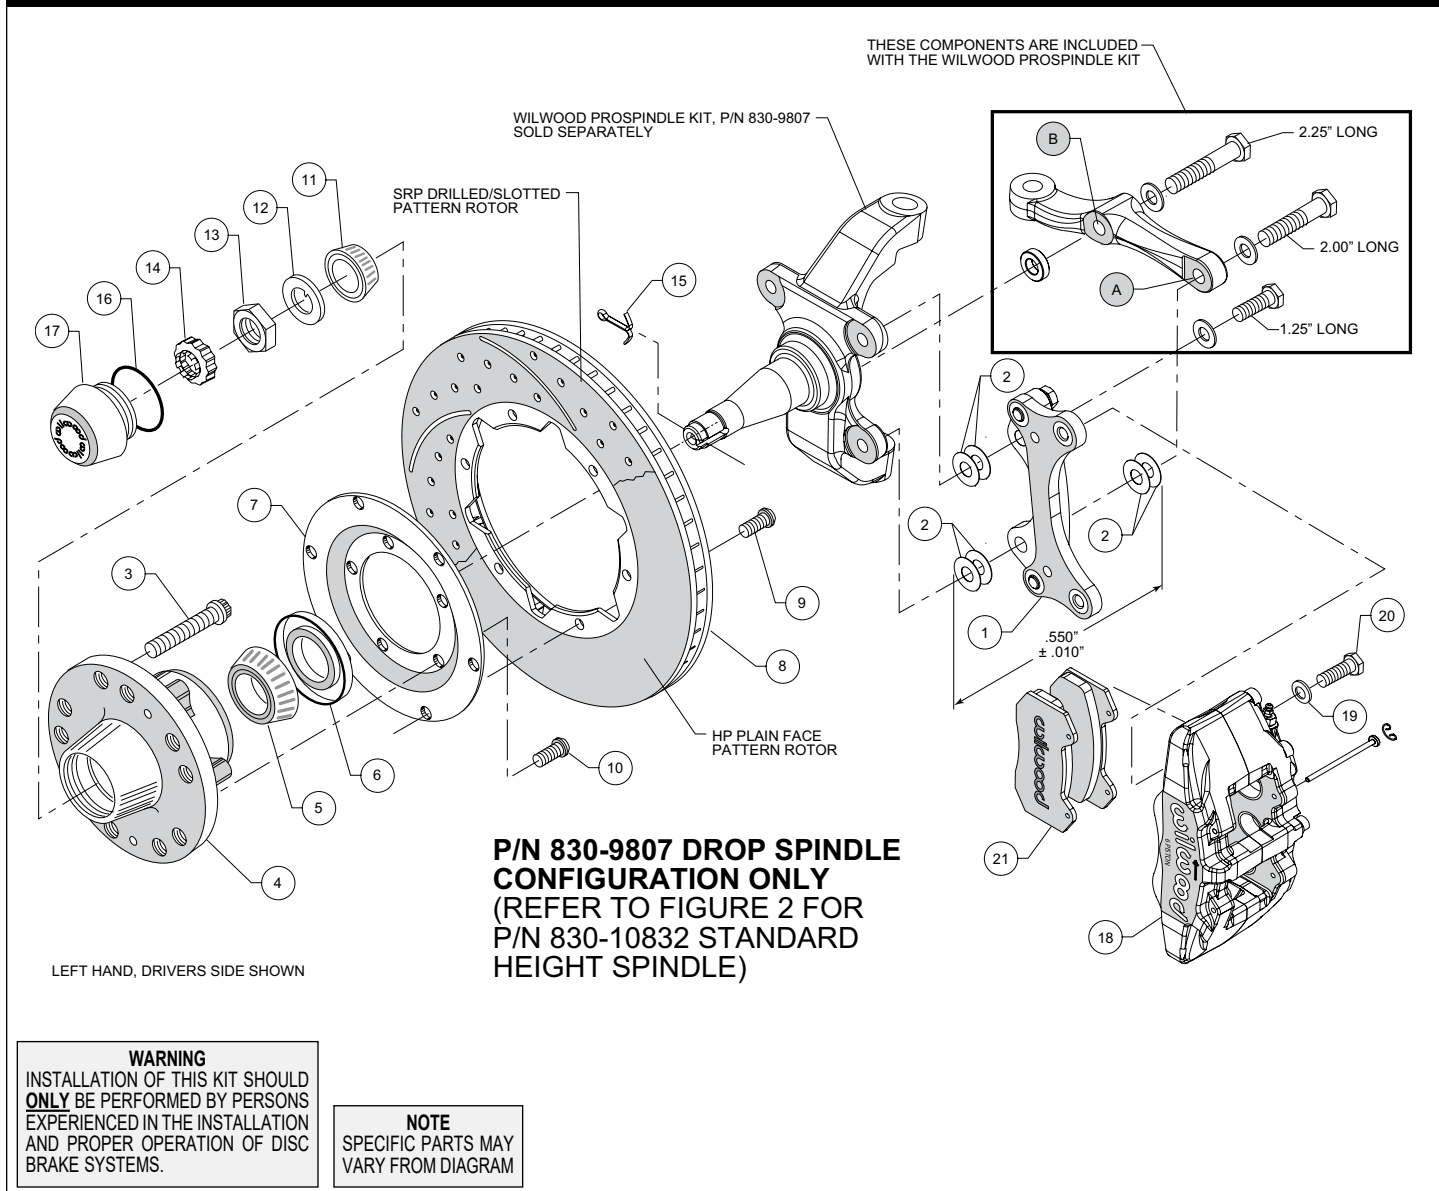
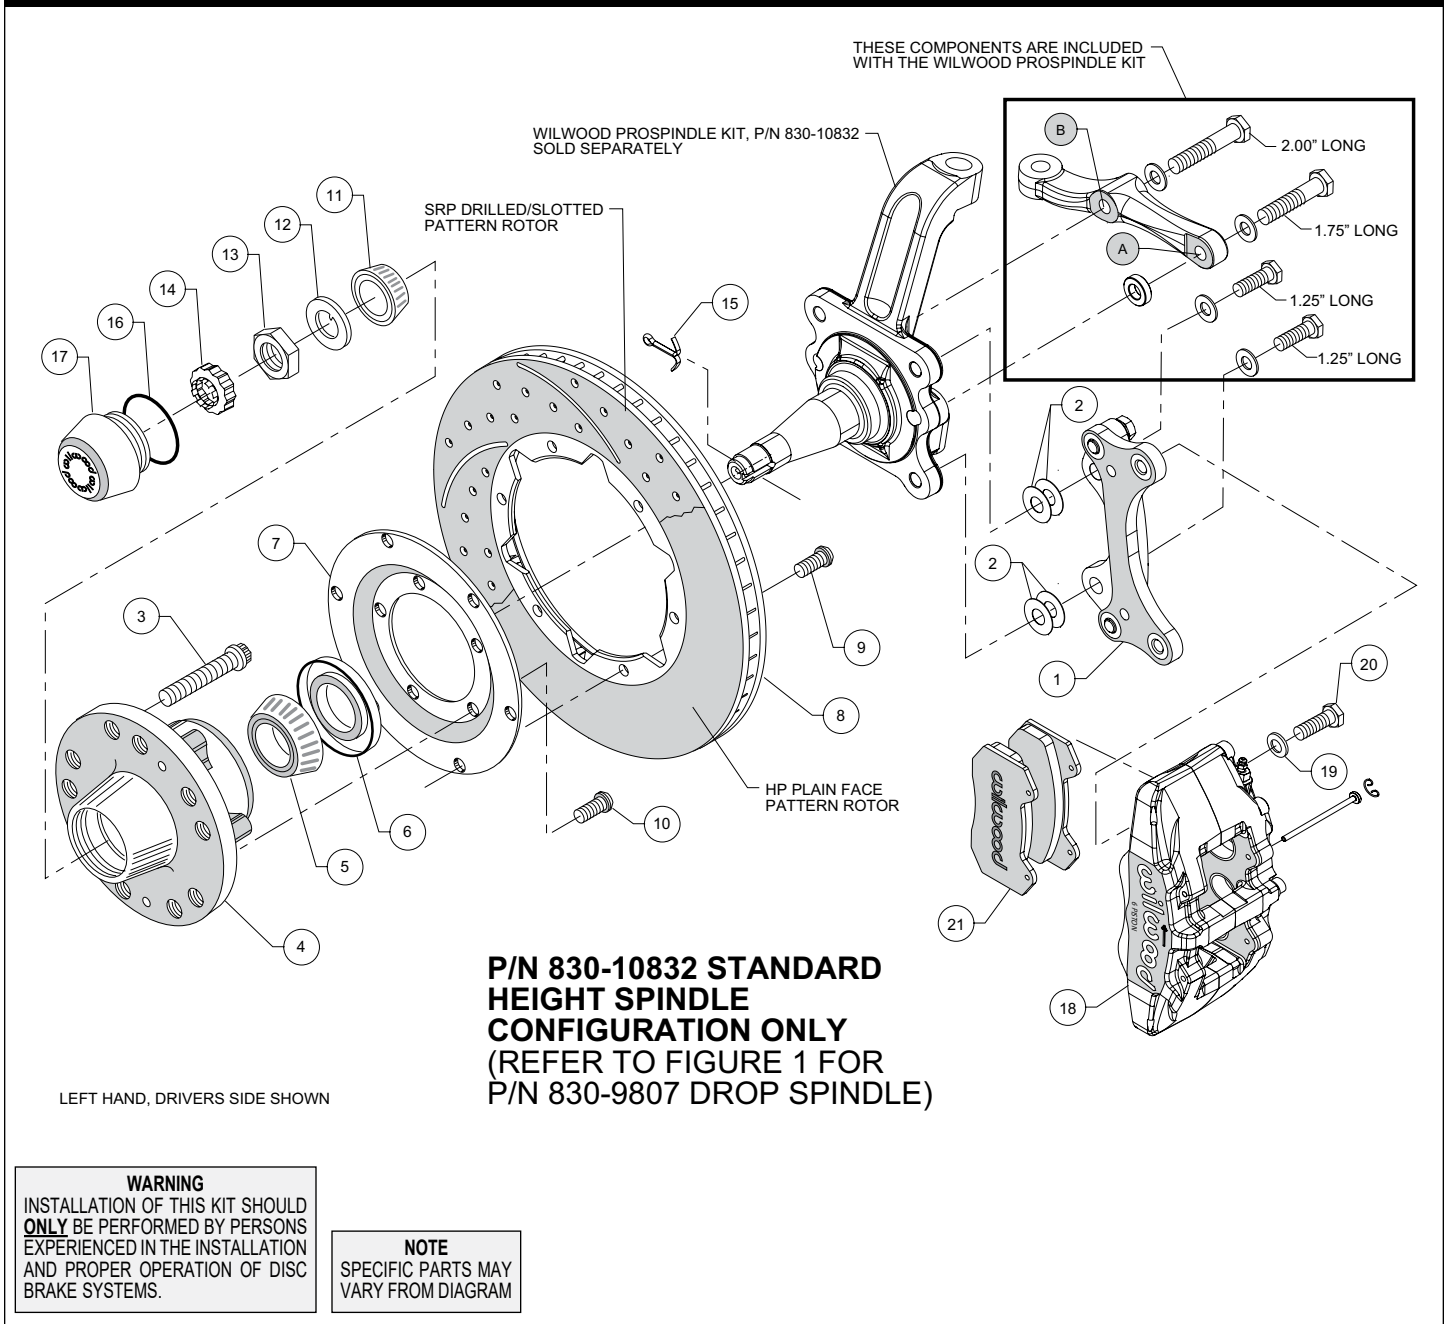

Figure 1. Installation Configuration For Drop Spindle, P/N 830-9807
Figure 2. Installation Configuration For Standard Height Spindle, P/N 830-10832
NOTE: Numbers in parenthesis refer to the parts list and Figures 1 and 2 on the preceding pages.
NOTE: Each Wilwood ProSpindle kit includes bolts, washers, and a spacer to mount the steering arm and caliper bracket. The various bolts are identified by length in the following instructions and in Figures 1 and 2.
- Orient the bracket as shown in Figure 1 and Photo 1. Install at top spindle hole using 1.25" long bolt and .06" thick washer (from ProSpindle kit), and two .016" thick shims (2) between the bracket and spindle, Figure 1.
- Orient the steering arm, and identify the hole marked 'A', as shown in Figure 1. Install at bottom spindle hole using 2.00" long bolt, .06" thick washer (from ProSpindle kit), two .016" thick shims (2) between the steering arm and the bracket, and another two more .016" thick shims (2) between the bracket and spindle, Figure 1. The bracket is located between the steering arm and spindle. **NOTE:** The bracket and shim washers must add up to a total thickness of .550" ± .010", Figure 1.
- Finish attaching the steering arm through the hole marked 'B', as shown in Figure 1. Install using 2.25" long bolt, .06" thick washer, and .25" thick spacer (all from ProSpindle kit), Figure 1.
- Orient the bracket as shown in Figure 2 and Photo 2. Install using 1.25" long bolts and .06" thick washers (from ProSpindle kit), and two .016" thick shims (2) on each bolt between the bracket and spindle, Figure 2. Temporarily tighten mounting bolts. **NOTE:** *The bracket must fit squarely against the mounting points on the spindle.* Inspect for interference from casting irregularities, machining ridges, burrs, etc. Later, after the caliper alignment has been checked, the mount bolts will be secured using red *Loctite*® 271.
- Orient the steering arm, and identify the hole marked 'A', as shown in Figure 2. Install using 1.75" long bolt, .06" thick washer, and .30" thick spacer (all from ProSpindle kit), Figure 2.
- Finish attaching the steering arm through the hole marked 'B', as shown in Figure 2. Install using 2.00" long bolt and .06" thick washer (from ProSpindle kit), Figure 2.
- Install wheel studs (3) into the hub (4), Photo 3. Torque to 77 ft-lb. **NOTE:** *There are two lug patterns of five holes each in the hub (5 x 4.50 and 5 x 4.75).* Make sure of the correct hole pattern for the wheel application before installing the studs into the hub.
- Pack the large inner bearing cone (5) with high temperature disc brake bearing grease (available from your local auto parts store) and install into the backside of the hub (4), Photo 4.
- Install the grease seal (6) by pressing into the backside of the hub (4), flush with the end of the hub, Photo 4.
- Orient the rotor (8) and the rotor adapter (7) as shown in Figure 1 or 2 and Photo 5. Attach the rotor to the adapter using bolts (9). Using an alternating sequence, apply red *Loctite*® 271 to the threads, and torque to 25 ft-lb.
- Mount the adapter/rotor assembly (7 and 8) to the hub (4) using bolts (10), as shown in Figure 1 or 2 and Photo 6. Using an alternating sequence, apply red *Loctite*® 271 to the threads, and torque to 45 ft-lb.
- Pack the small outer bearing cone (11) with high temperature disc brake bearing grease and install into front of hub (4). Slide the hub assembly onto the spindle. Secure using spindle washer (12) and spindle nut (13), Photo 7. Bearing adjustment: Tighten the nut while turning the hub. When there is a slight bind on the bearings, they are seated correctly. Back the nut off about 1/6 to 1/4 of a turn, or sufficiently to allow .001" to .007" end play. **WARNING:**
•**NOTE:** Please reference the caution statement at the beginning of the assembly instructions. This kit contains distinct right and left hand calipers that must be mounted in a specific direction, as described below. Mount the caliper (18) onto the caliper bracket (1) using washers (19), and bolts (20) as shown in Figure 1 or 2. Ensure that the caliper is mounted so the largest pistons are at the rotor exit end of the caliper, in relation to the direction of rotor rotation. Temporarily tighten the mounting bolts and view the rotor (8) through the top opening of the caliper (18). The rotor should be centered in the caliper, Photo 9. If not, proceed as follows: